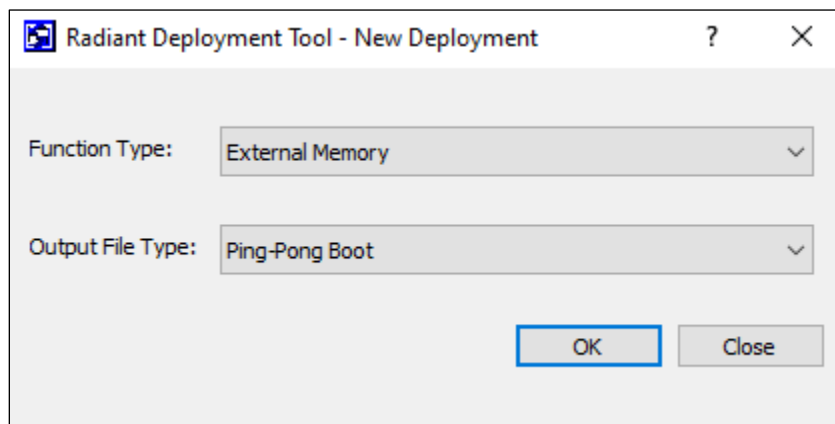

Figure 7.6. Creating New Deployment for Ping-Pong Boot File
- In the Radiant Deployment Tool window, select **External Memory** as the **Function Type** and select **Ping-Pong Boot** as the **Output File Type** (Figure 7.6).